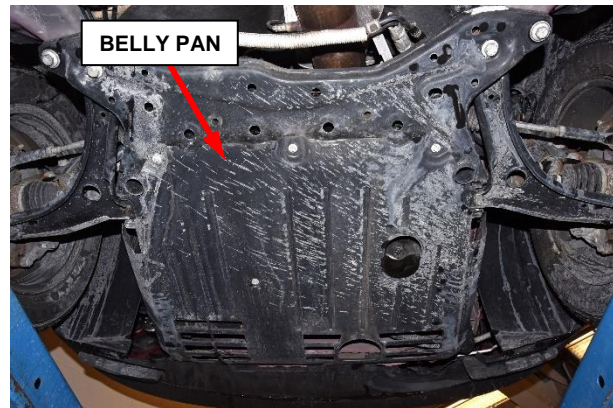

Figure 1 – Engine Compartment Belly Pan
2. **If equipped:** Remove the engine compartment belly pan (Figure 1).
3. Compare the engine identification number to the last eight digits of the VIN (Figure 1).
30. *If equipped:* Install the engine compartment belly pan (Figure 1 or 7).